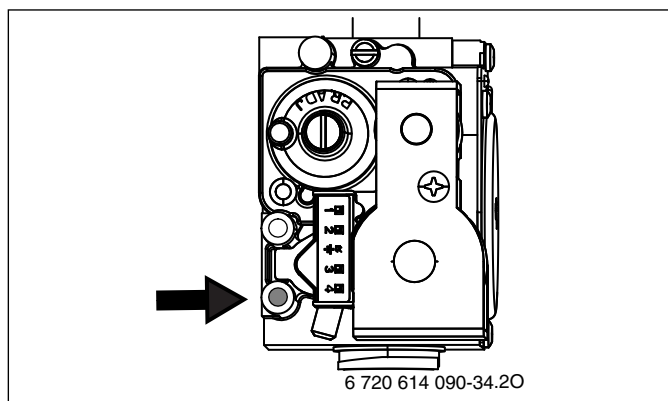

Fig. 61 Dynamic gas pressure test port
- Loosen the screw in the test port for gas inlet pressure (→ Fig. 47, [1]) and connect a pressure gauge (→ Fig. 61).